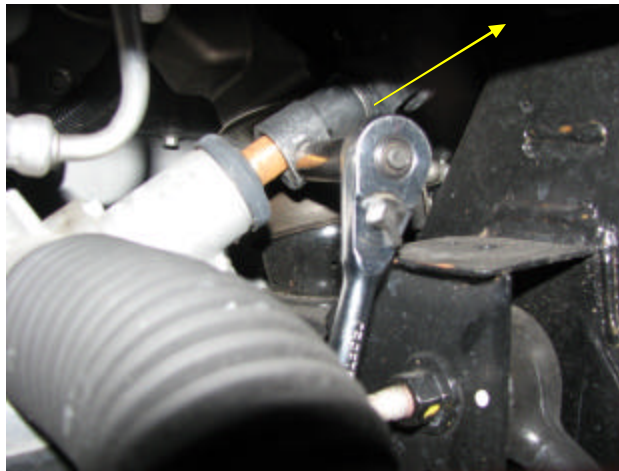

Figure 4: Steering shaft removal
12. Pull the steering shaft in the direction of the arrow and swing it down out of the way (Figure 4).